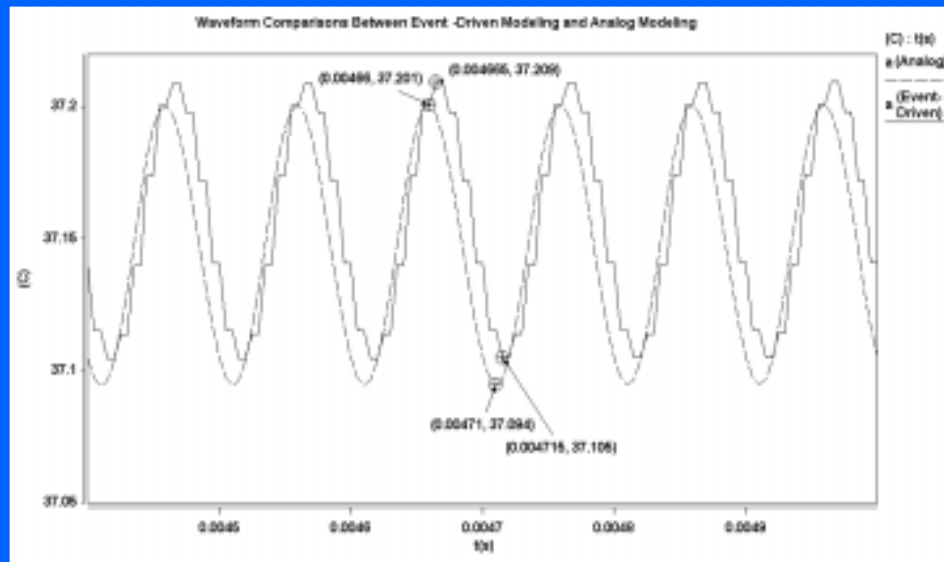

Fig. 5. Simulation Results —expanded view.
- Temperature evaluation every 5 analog solution points (Fig.5).